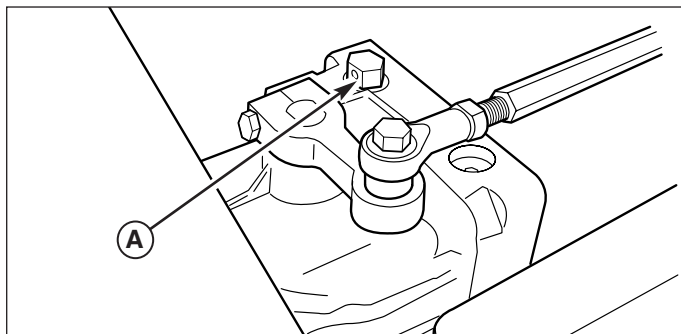

Figure 4. Hydraulic Release Valve Location
1. Refer to Figure 4 for hydraulic release valve location.